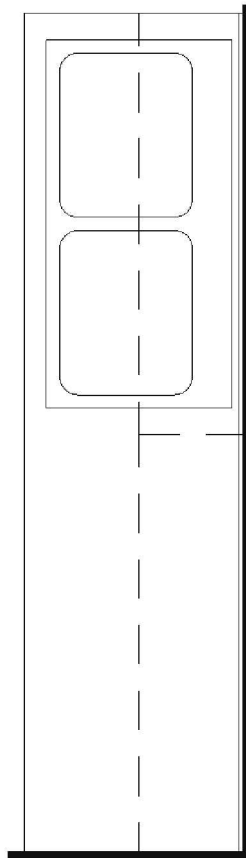

FIGURE 11-2.5 Sink added
12. Move the sink into position, centered on the hole in the countertop (Figure 11-2.5).